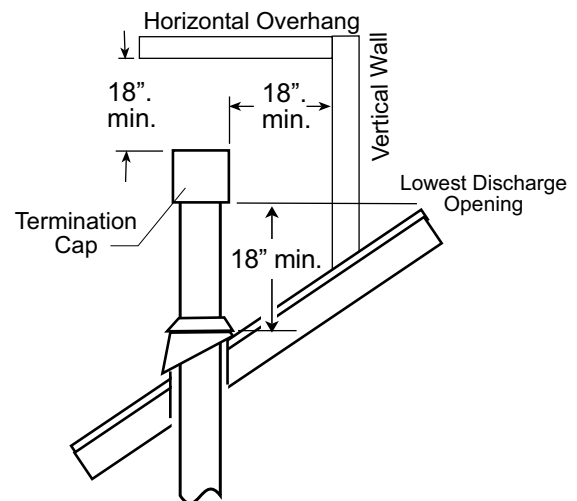

Figure 15.
- Vent Terminus Clearance: In no case shall any discharge opening on the cap be less than 18 in. (457 mm) horizontally from the roof surface. See fig. 15.